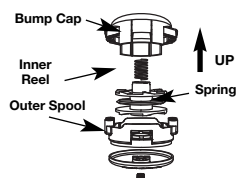

Fig. 21
2. Remove the cap either by letting it pop off or a slight wiggle of the cap may be required and pull it off the outer spool (Fig. 21)
4. Place the inner reel back into the outer spool (Fig. 21).